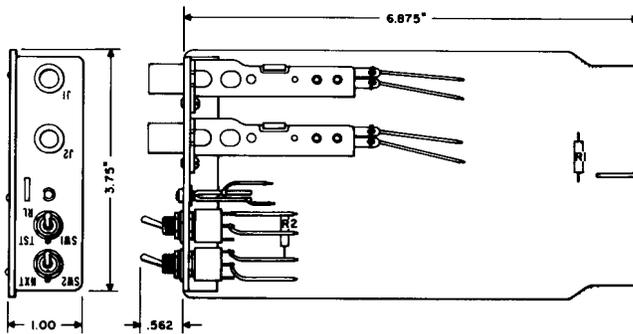

Fig. 3—791A Balance Tester Tool
**2.09 791A:** The 791A balance tester tool (Fig. 3) is used on the No. 1 ESS to provide test access for 4-wire, 2-way trunk circuits with scanner wire options.